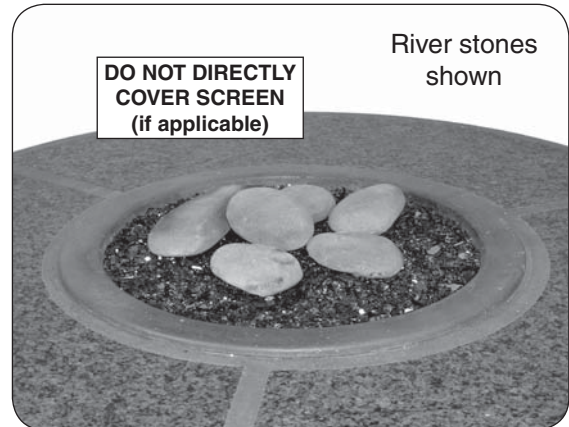

Fig. 32-2 Secondary options
**After one of the primary options (lava or glass media) has been properly placed,** various river stone, creekstone, geo shape, wood chunk, and glass nugget options are available. If one of these secondary options are purchased, place them as desired in a decorative pattern on top of the primary media. See Fig. 32-2 for an example.